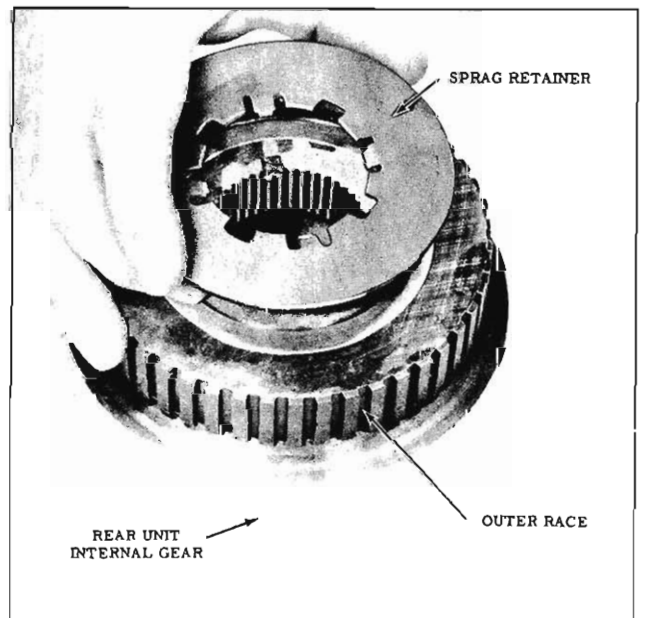

Fig. 6-83 Installing Sprag Retainer
6. Apply petrolatum on sprag retainer and install sprag retainer on internal gear aligning tangs with the internal gear slots. (Fig. 6-83)